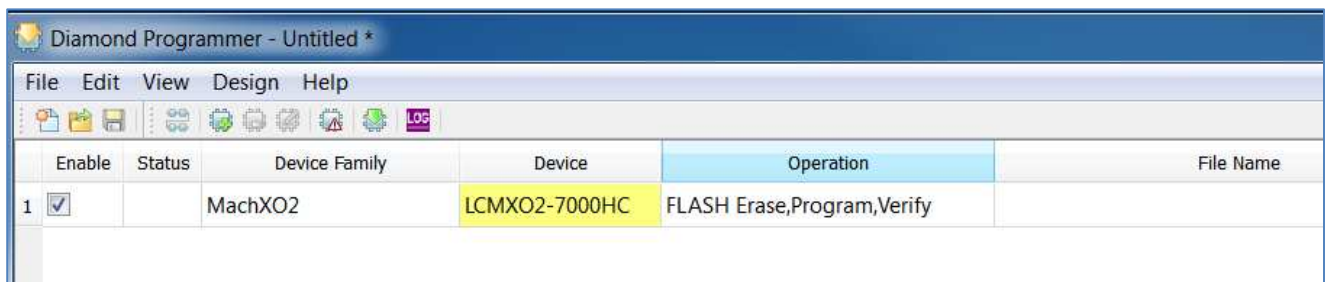

Figure 5.13. ASC Socket – Operation
2. Double click in the box under **Operation** as shown in Figure 5.13.